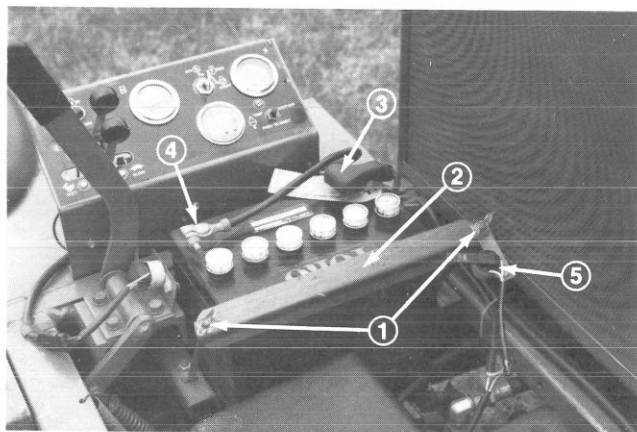

Figure 5
2. Remove two wing nuts and hold down strap that secure battery and seat switch in place (Fig. 5). Lift battery out of Chassis. Keep wing nuts and hold down strap in a safe place for later use.
3. Secure battery in place with hold down strap and wing nuts (Fig. 5). Tighten wing nuts securely to prevent battery from moving while machine is operated.
4. Slide the red, positive battery cable (Fig. 5) onto positive battery post and tighten nut securely.
5. Slide the black, negative battery cable (Fig. 5) onto negative battery post and tighten nut securely.
6. Coat both battery connections with either Grafo 112X (skin-over) grease, Toro Part No. 505-47, petroleum jelly or light grease to prevent corrosion and slide rubber boot over positive terminal (Fig. 5).